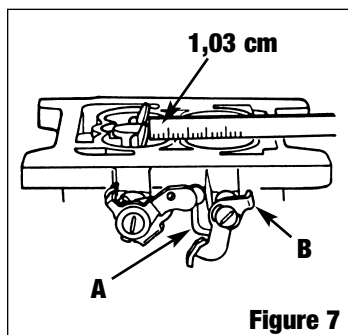

Figure 7
• **OUVERTURE DE SOUPAPE D'OBTURATEUR SECONDAIRE (FIG. 7)**